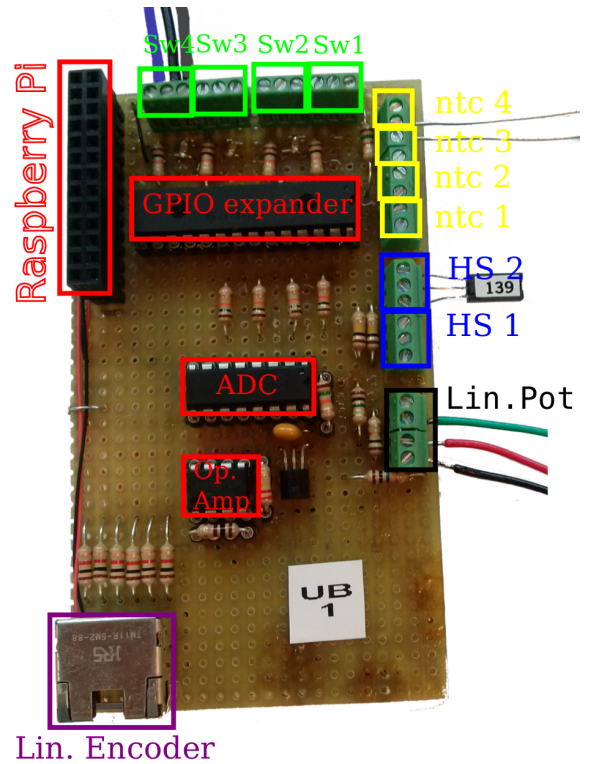

Figure 1: Main board (UB1)
- **Switches.** Board was designed for 3 wires switches. This allow to it check if switches is connected. Grey wire connected to black if swithch is not pressed and on the gpio in is zero. If yes back and blue is connected and on gpio in is logic 1. Right connection is shown on figure 1 (grey, black, blue). To check if switch is connected RPi give logic 1 on grey wire and read black, if on gpio in is 1 - switch is connected. After RPi give on grey wire 0, and switches wor in normal mode.